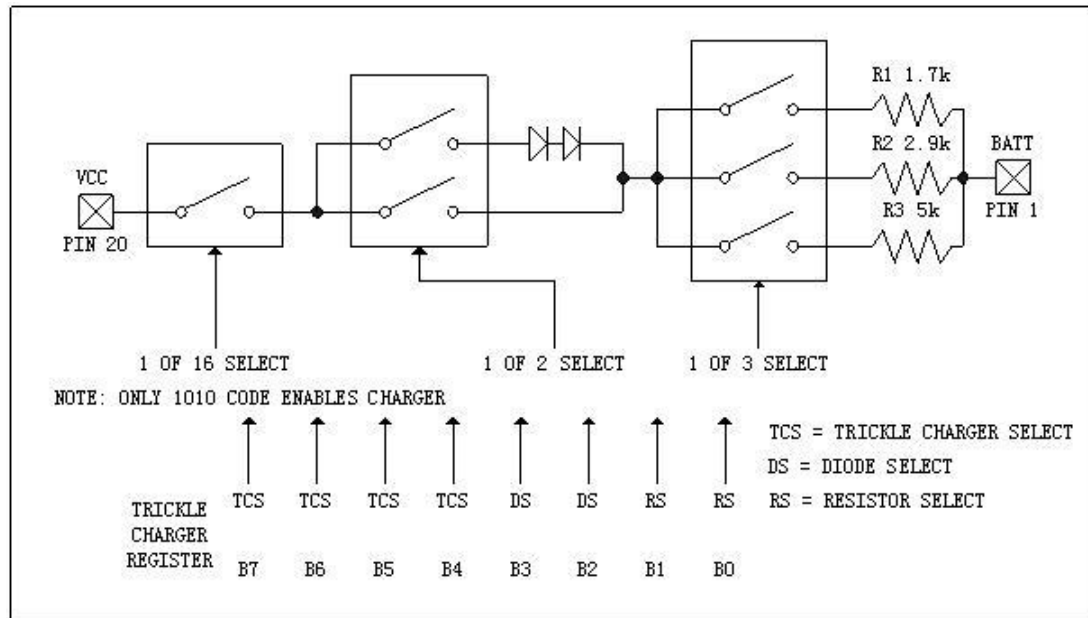

Figure 3 Trickle charger functional schematic
The trickle charge register controls the trickle charger characteristics of the PT7C4908. The trickle charger functional schematic (Figure 3) shows the basic components of the trickle charger. Table 6 details the bit settings for trickle charger control. Trickle charge selection (TCS) bits D7–D4 control the selection of the trickle charger. In order to prevent accidental enabling, only a pattern of 1010 enables the trickle charger. All other patterns disable the trickle charger. The PT7C4908 powers up with the trickle charger disabled. The diode select (DS) bits (D3–D2) select whether two diodes or no diodes are connected between VCC and BATT. If DS is 10, no diode is selected; if DS is 01, two diodes are selected. If DS is 00 or 11, the trickle charger is disabled independent of the state of the TCS bits. The RS bits (D1–D0) select the resistor that is connected between VCC and BATT. If both RS bits are set to zero, the trickle charger is disabled, regardless of any other bit states in the trickle charger register. RS bits set to 10 select a 1.7K, 01 selects 2.9K, and 11 select 5K.